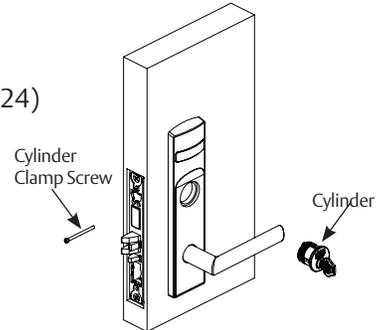

Figure 24
1. Thread cylinder into lock until flush with escutcheon surface. (Figure 24)